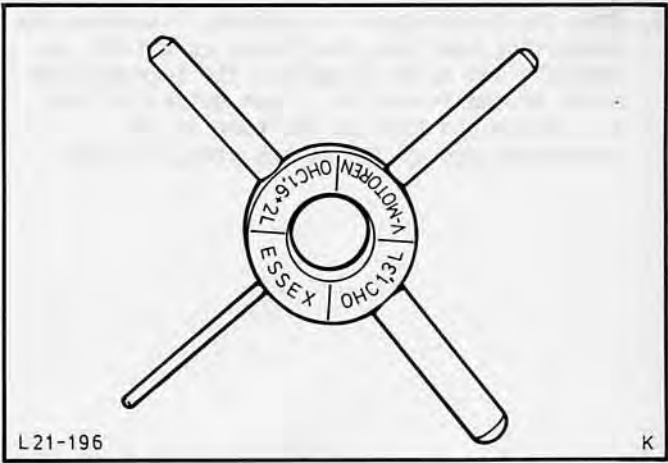

Fig.125. Installer stop gauge.
7. Use the stop gauge marked "Essex", Fig.125.